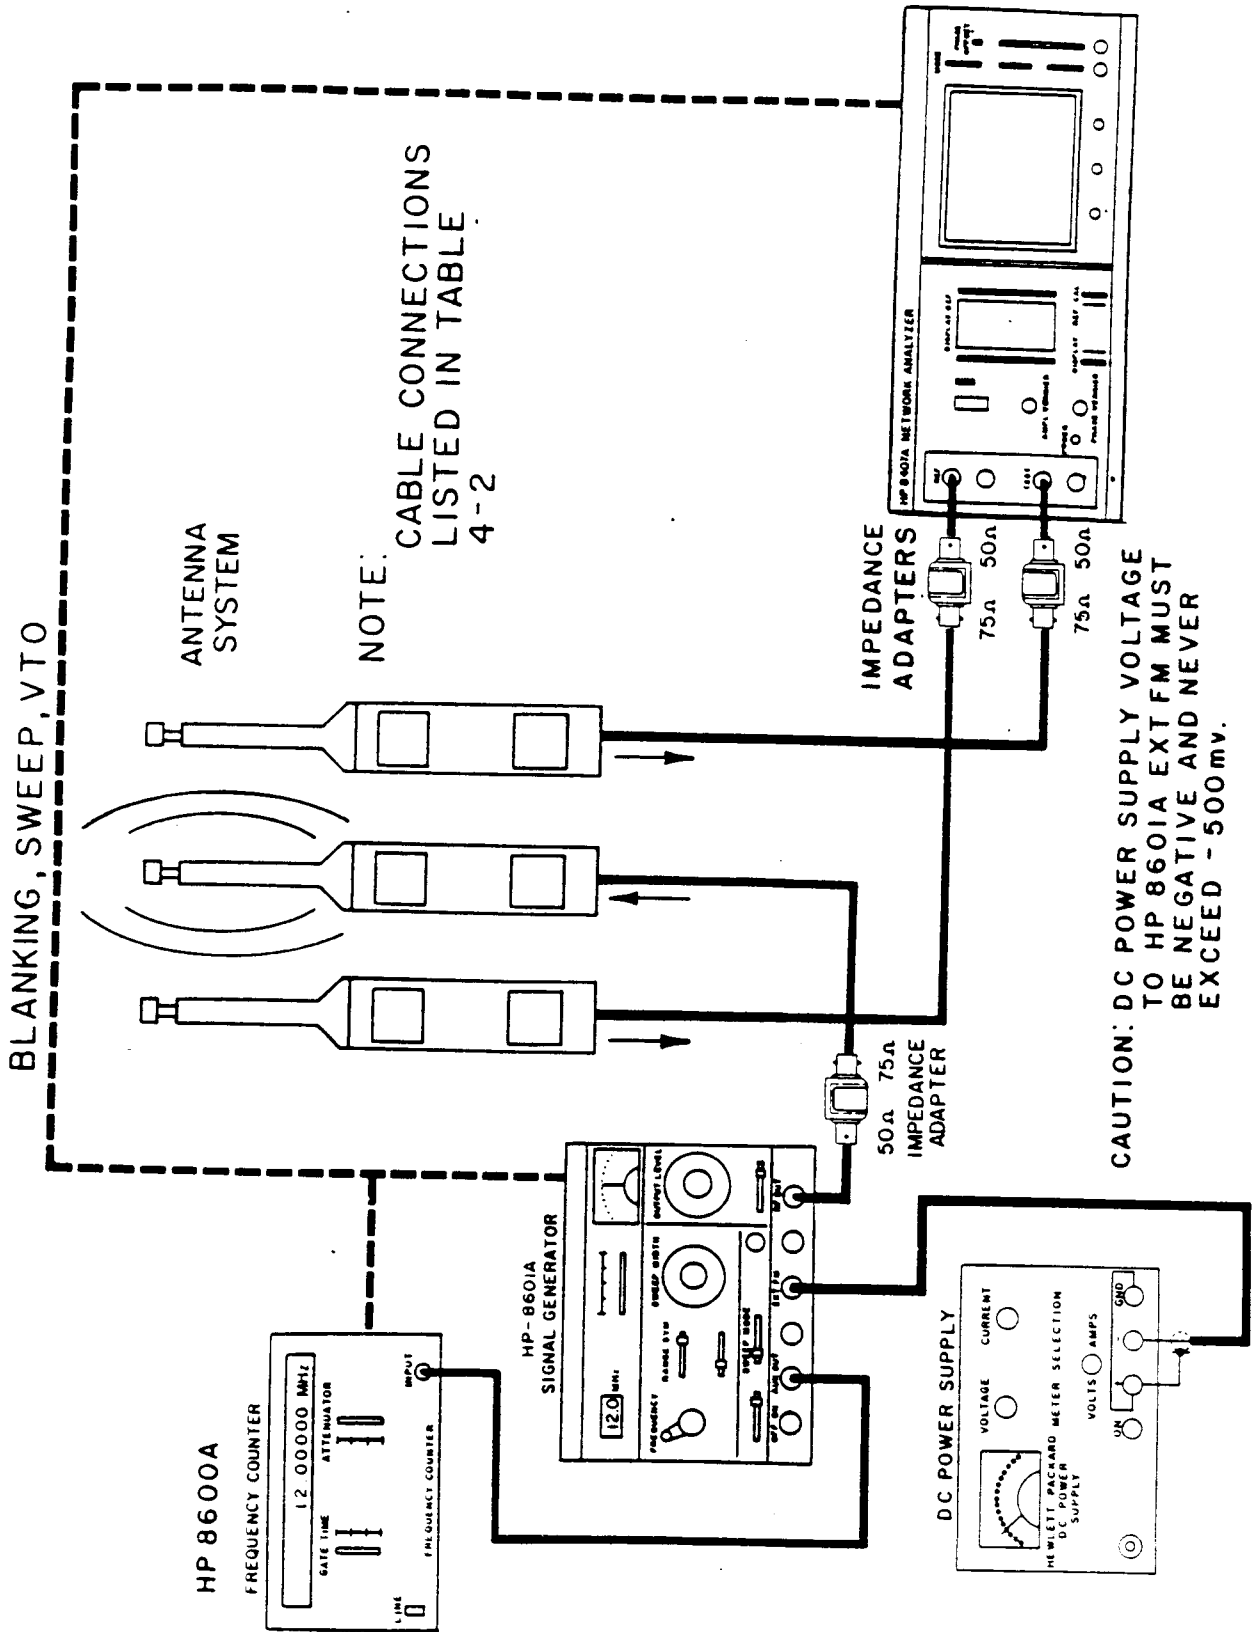

FIGURE 4-1. Simplified Phase/Amp. Comparison, Test Diagram.
4.1.1 As shown in the test diagram of Figure 4-1, the test signal from the sweep oscillator is sent out the transmission line to an antenna. The transmitted test signal is received on the two adjacent antennas and returns back through the transmission lines to the network analyzer. The network analyzer then measures and displays the amplitude and phase differences between the antenna responses as a function of frequency.
The connection points between the test system and an antenna element are at the RG-12 antenna cables at the back of the multicoupler bay cabinets. To hook up a test cable to an antenna element, disconnect the RG-12 from its directional coupler. Then attach a test cable with appropriate adapters to the RG-12. Table 4-1 and Table 4-2 show the control settings and cable connections for the test setup in Figure 4-1.
Note that this test can be performed more quickly using the AN/FRM-19 switching heads as shown in Figure 4-2. However, this setup would include other elements (directional couplers, multicouplers, and AN/FRM-19) in the test results. The test signal is also severely attenuated by the loss in the directional couplers and AN/FRM-19 therefore on-the-air signals interfere with the test results. In addition, less stringent phase criteria are necessary due to the phase specifications of these elements. Therefore, it is highly recommended that they be excluded by performing the test as shown in Figure 4-1, and manually switch the test leads at the back of the primary multicouplers.